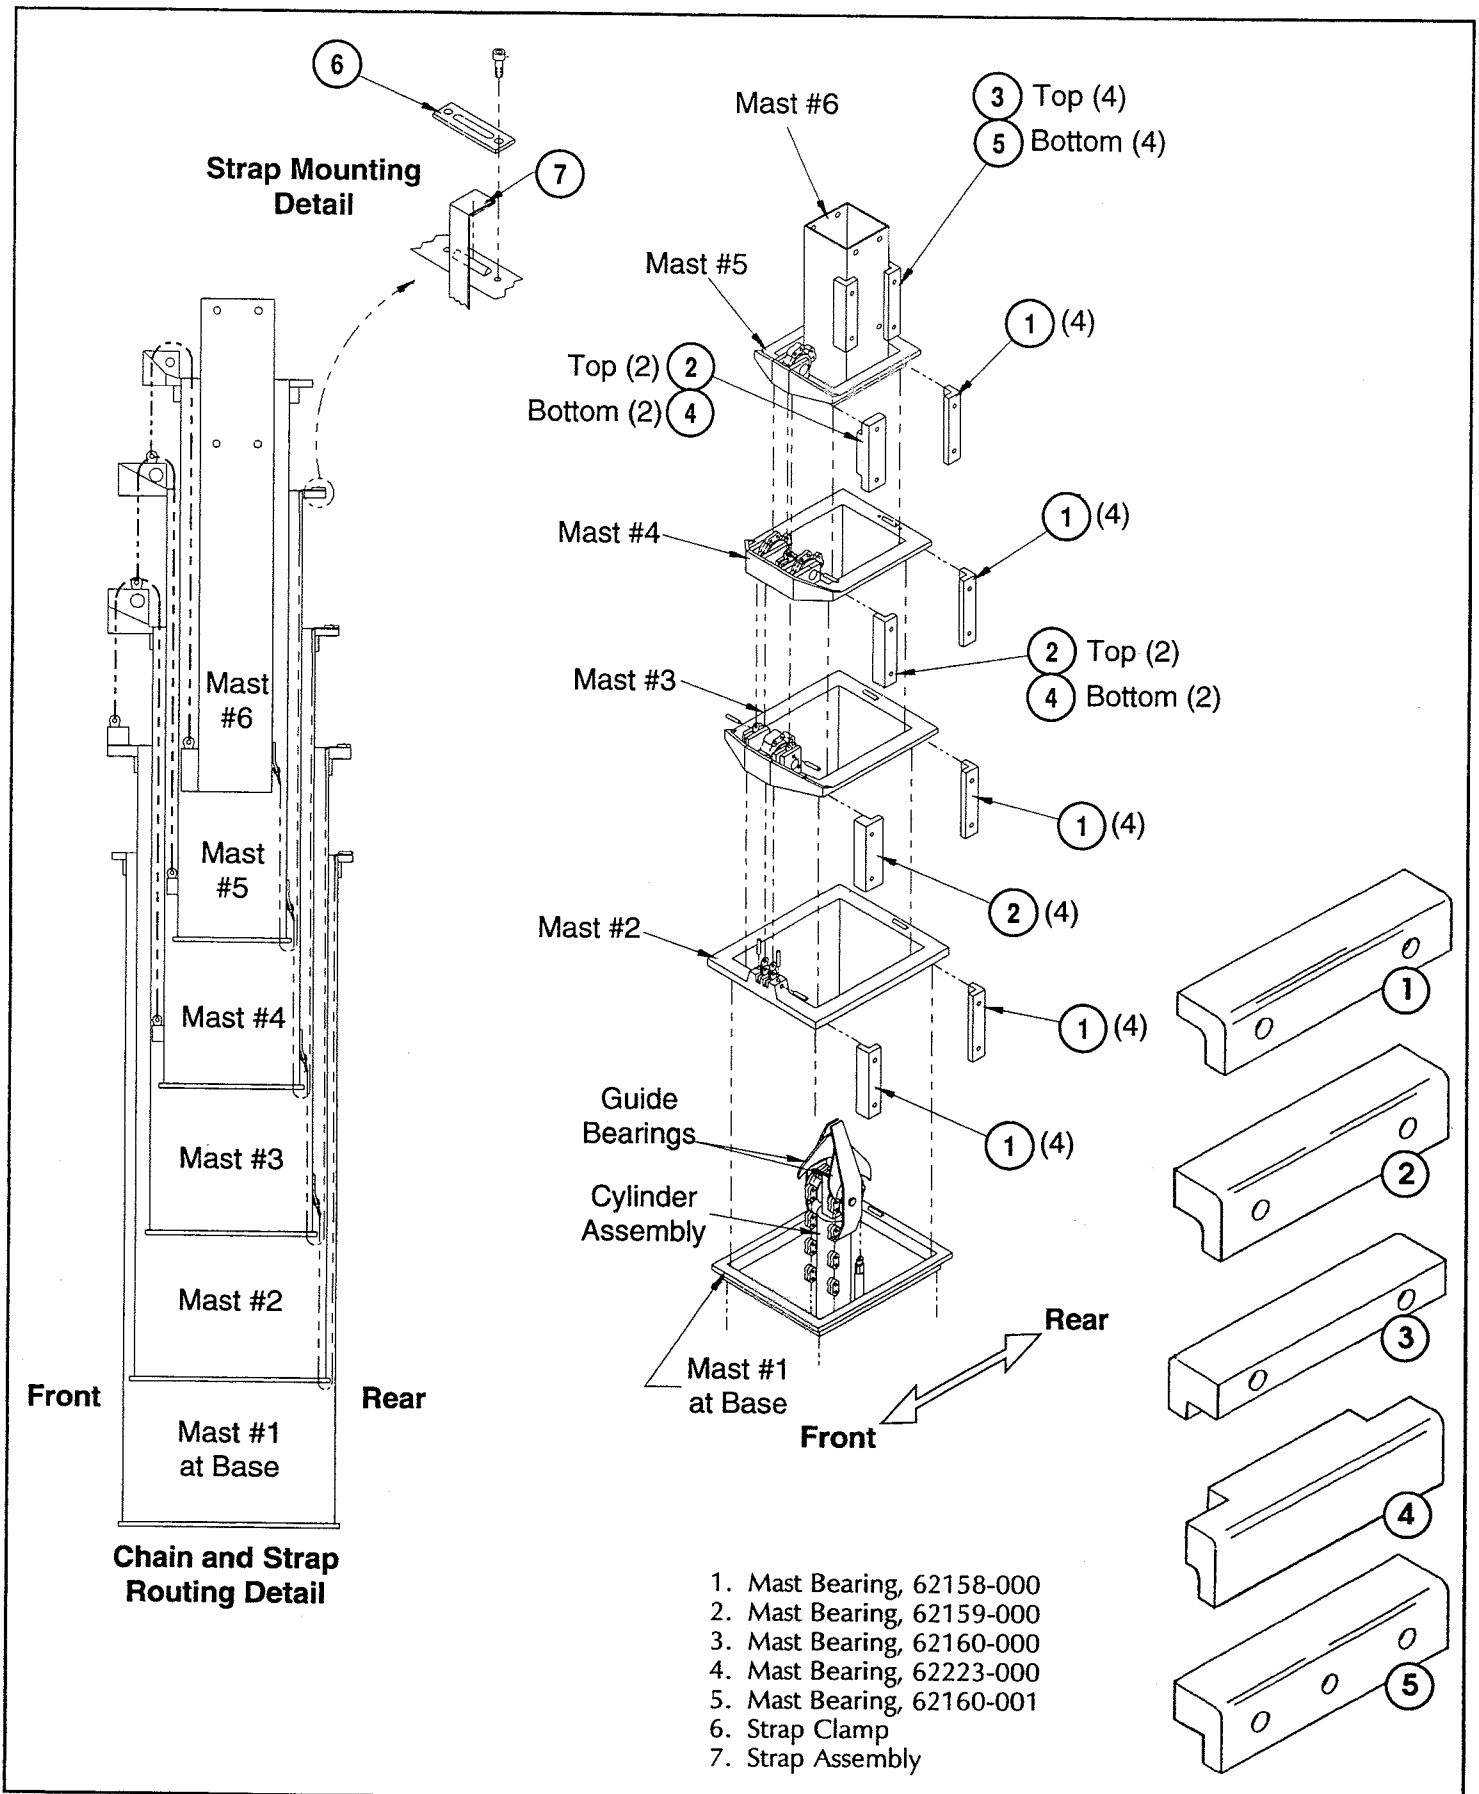

Figure 4-7: Mast Assembly
INSTALLATION (Figure 4-7)
13. With the pinch shield removed, inspect cylinder guide bearings (Figure 4-7). Elevate machine two or three feet (60-90 cm) while viewing cylinder guide bearings with a flashlight.